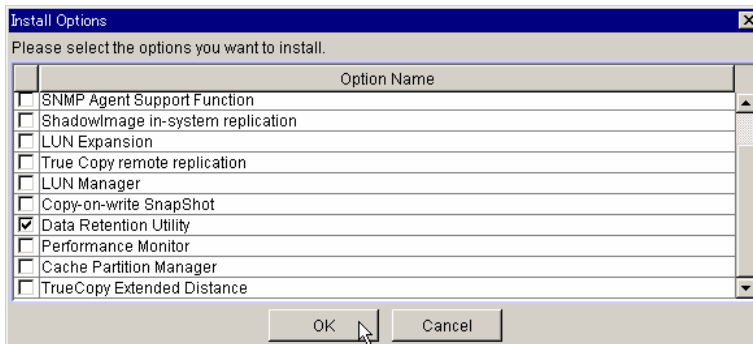

Figure 4.31 Install Options Selection Window
- Click **OK**, to open the **Install Options** dialog box (see Figure 4.31).